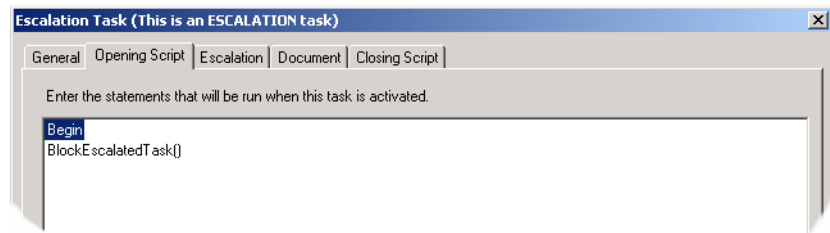

Figure 31-8. Inserting a Block Escalated Task function in the Closing Script.
- ❶ To block an escalated task, click on an escalation task, then click the **Closing Script** tab, right-click on a statement, select the **Insert** drop-down menu, select the **Internal Functions** drop-down menu, and select **Block Escalated Task** (see Figure 31-8, below).